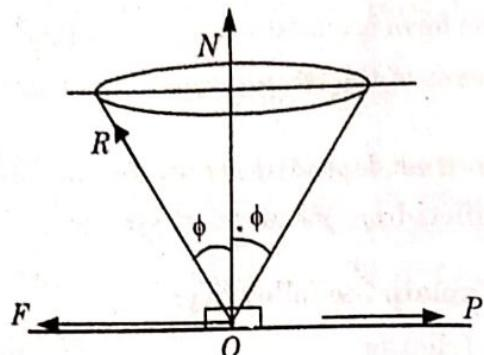

Fig. 5.3.1.
1. In Fig. 5.3.1, let ON represent normal reaction offered by a surface on the body and R is the resultant reaction of friction force and normal reaction. Let ϕ be the angle of friction.